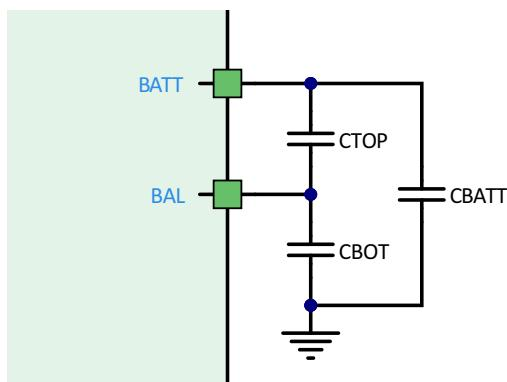
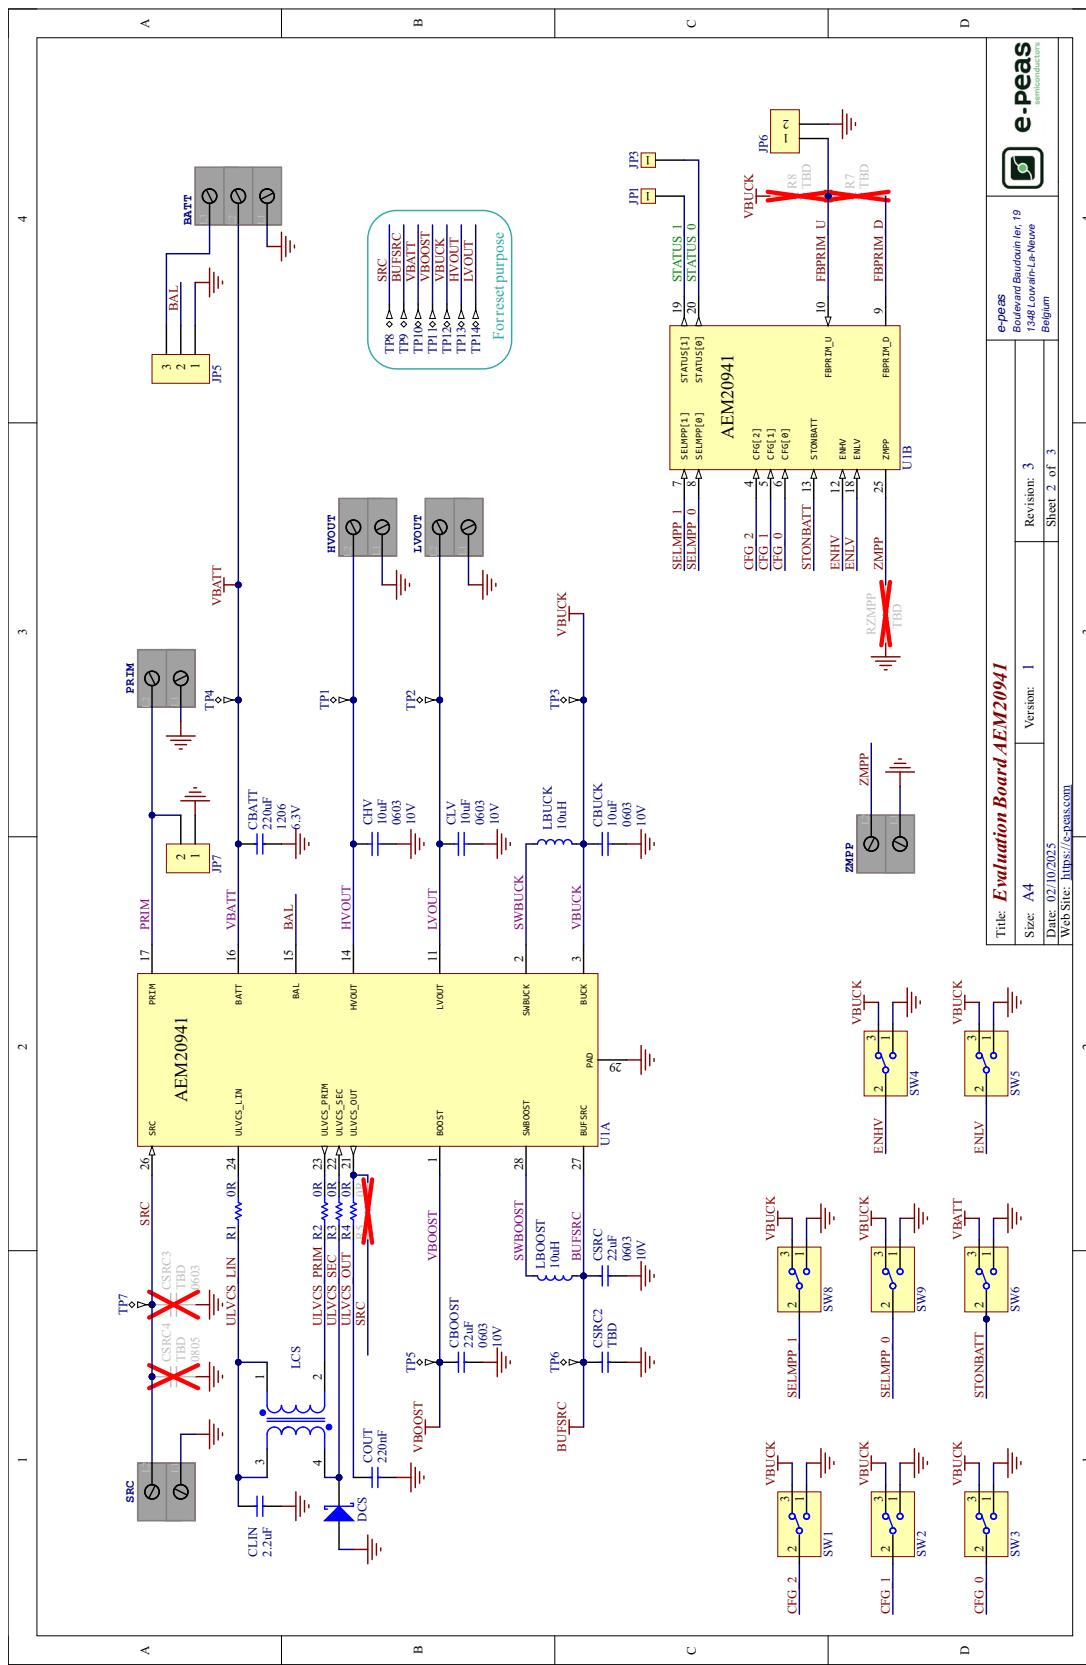

Figure 8: Capacitors connection for balancing
Figure 15: AEM20941 evaluation board schematic
The following test allows the user to observe the balancing circuit behavior. In this example, a mismatched dual-cell supercapacitor is simulated by using a 470 μF capacitor in series with a 330 μF capacitor, but any couple of capacitors could be used as long as the resulting capacitance seen by **BATT** matches the values specified in the “Recommended Operating Conditions” section from the AEM20941 datasheet. The capacitance mismatch must also be realistic, with a maximum factor of 2 between the top and the bottom capacitor (see Figure 8). Please note that the balancing circuit is enabled only if the voltage on the **BAL** pin is above $V_{\text{BAL,MIN}}$ (0.9 V). Please note that those capacitors are also in parallel with the on-board **CBATT** capacitor, which can be seen on the EVK schematic (Figure 15).
- **BATT**: as shown on Figure 8, connect C_{TOP} between **BATT** and **BAL**, and C_{BOT} between **BAL** and **GND**.